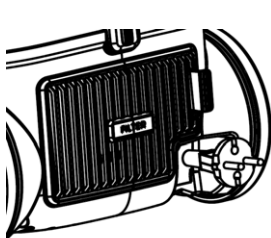

Fig 12
4. **Exchange the outlet filter:** Clip down and remove the outlet cover by hands for exchange of filter. (Fig 12, 13)